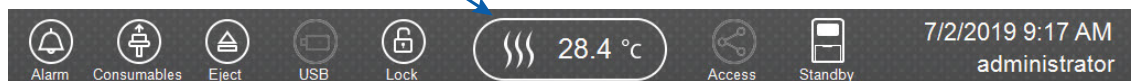

Figure 4. Preheating oven.
2. Select the **Oven Temperature** icon in the Header on the 'Main Menu' screen as shown in Figure 4 to start preheating the oven temperature to 60°C. The temperature displayed will change as the temperature of the oven increases. When 60°C is reached, a check mark will appear adjacent to the temperature.